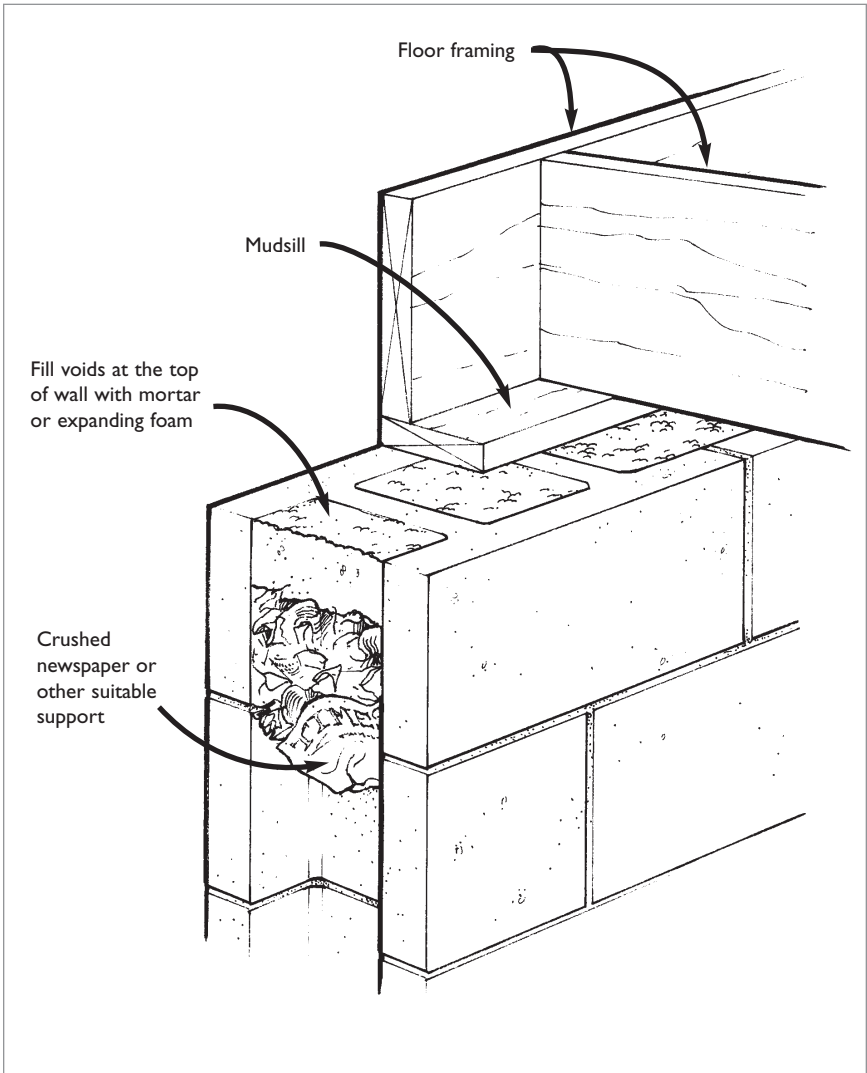

Figure 10: Sealing voids in the top of concrete block walls
- **Void in concrete block walls** – If there isn't a solid row of block, seal voids in the top of foundation and interior load-bearing walls (*see* figure 10).